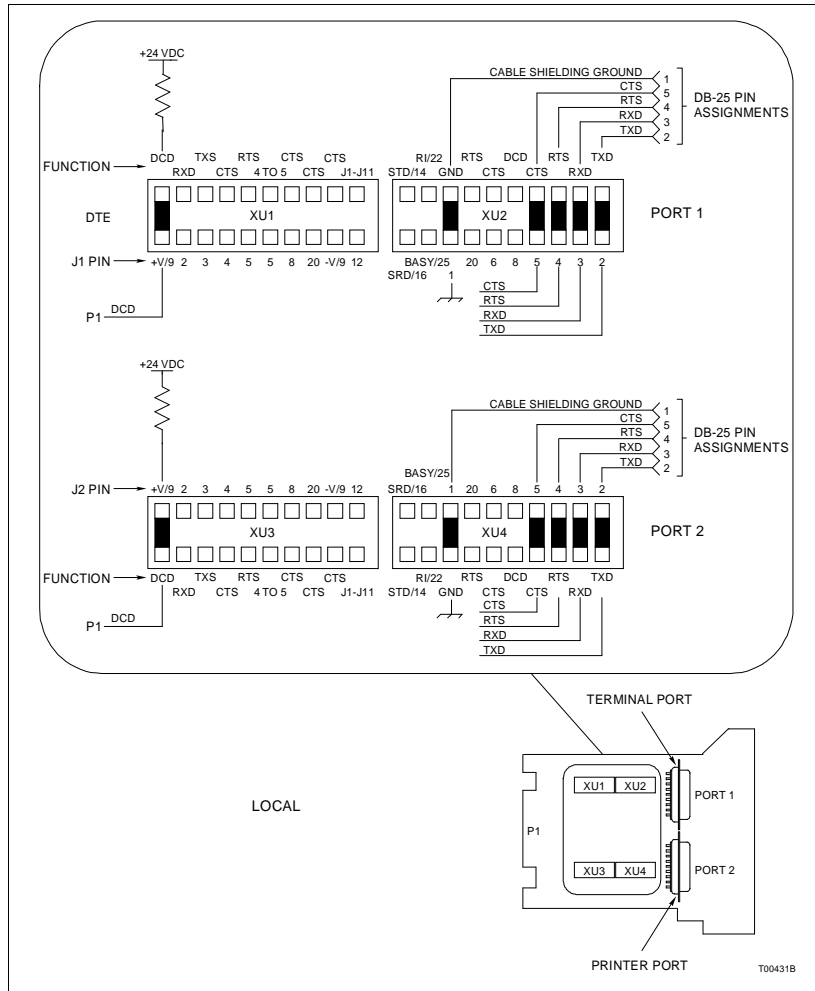
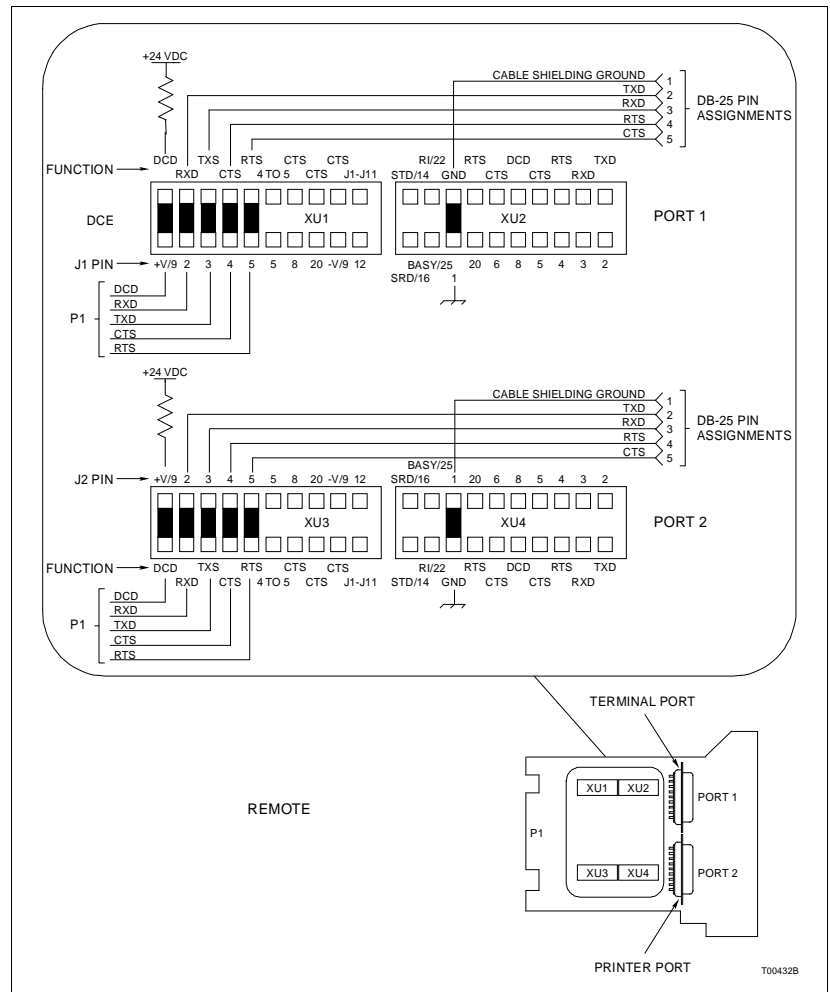

Figure 2-8. Dipshunt Configuration for Direct Connection of Local PPT Module Acting as DTE
Figure 2-9. Dipshunt Configuration for Direct Connection of Remote PPT Module Acting as DCE
2. If connecting a local Plant Loop (DTE) directly to a remote Plant Loop (DTE) via a cable (DCE), use the dipshunt settings shown in Figure 2-8 (local) and Figure 2-9 (remote).